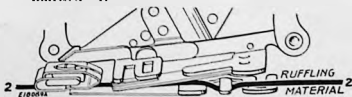

FIG. 62. CORRECT POSITION FOR MATERIAL TO BE RUFFLED
- (3) Insert the material to be ruffled between the two blue blades **Line 2, Fig. 62.**
- (4) Draw the material slightly back of the needle, lower the presser bar and commence to sew.
- (5) For line gathering, turn the adjusting screw **C** upward and shorten the stitch.
- (6) For full gathering, turn the adjusting screw **C** downward and lengthen the stitch.